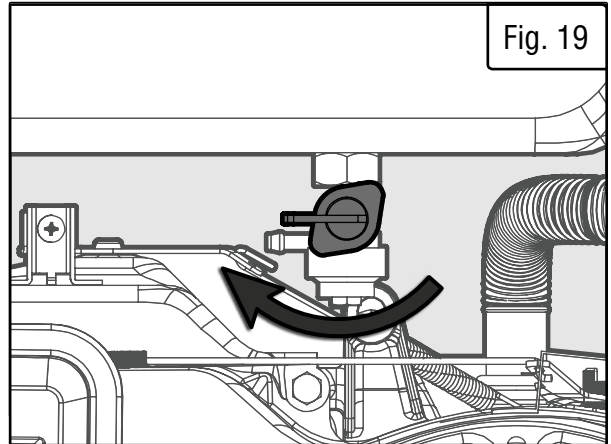

Fig. 19
1. Prepare an approved gasoline-storage container under the carburetor to collect drained fuel. Close the fuel valve (Fig. 19).